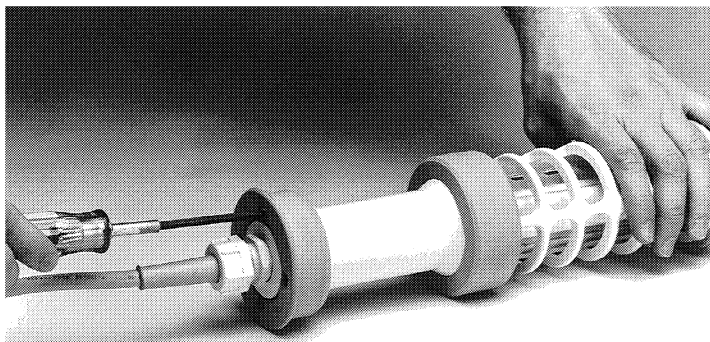

Figure 1
1. Remove four bolts on handle with Allen Head Wrench. (See figure 1)